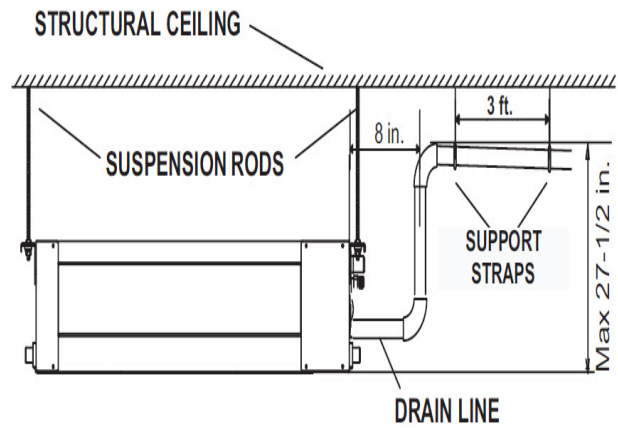

Fig. 16 —Condensate Piping
- The highest point in the condensate piping should be as close to the unit as possible. See Fig. 16.